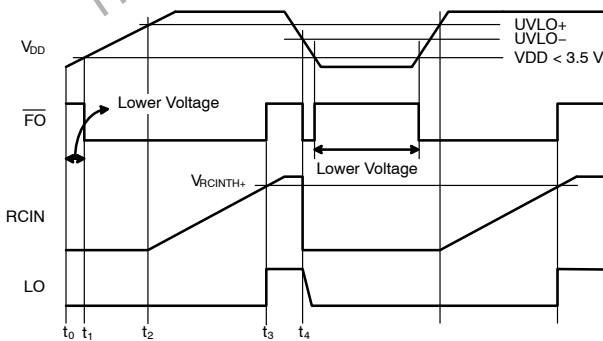

**Figure 37. Internal Dead-Time Definitions**
6. MDT is defined as  $|DT1-DT2|$  referenced to Figure 37.
Dead time is automatically inserted whenever the dead time of the external two input signals (between HINx and LINx signals) is shorter than internal fixed dead times (DT1 and DT2). Otherwise, external dead times larger than internal dead times are not modified by the gate driver and internal dead-time waveform definition is shown in Figure 37.